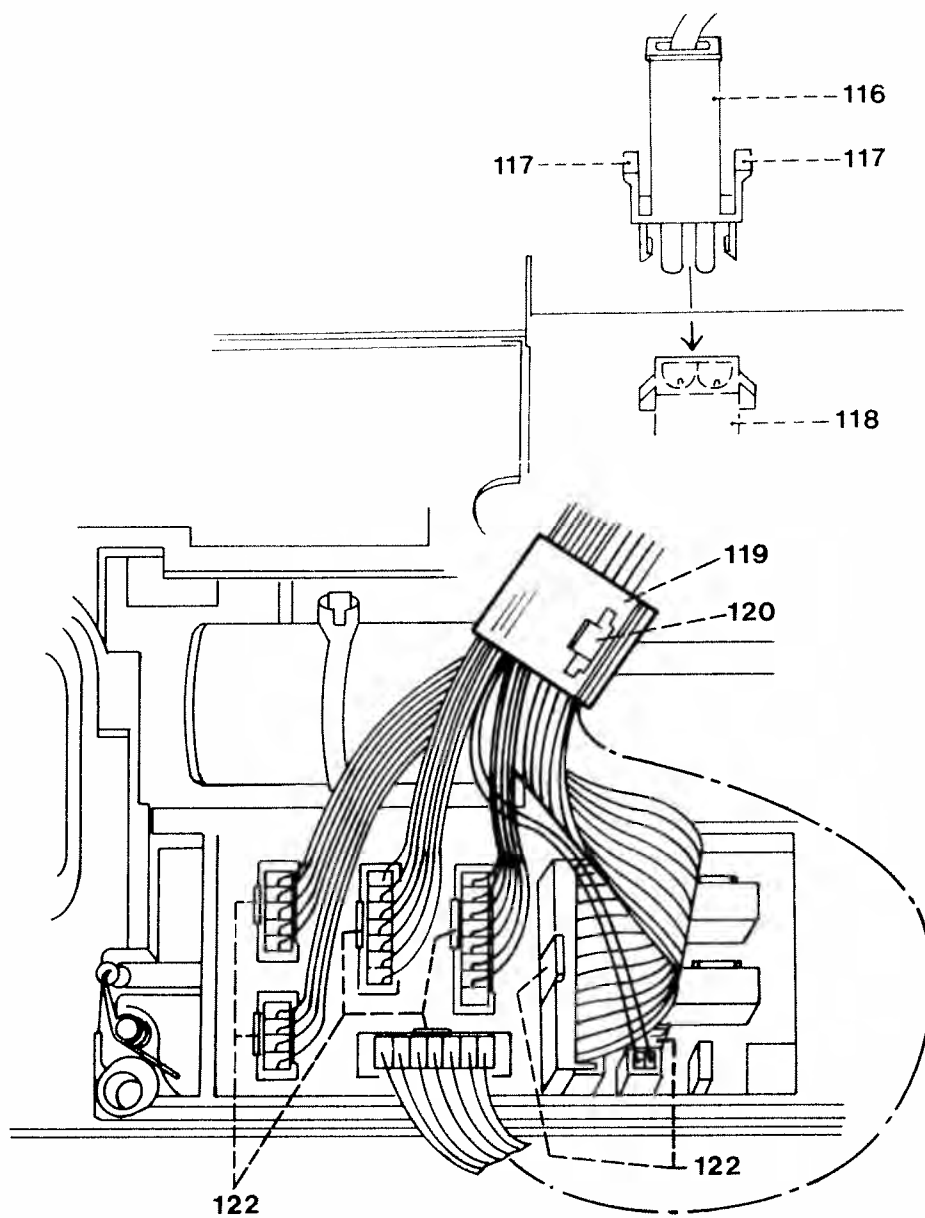

Fig. 38a
- Lift catches 122 by 1–2 mm and remove the plugs of the seven flat cables from the circuit board (Fig. 38a).